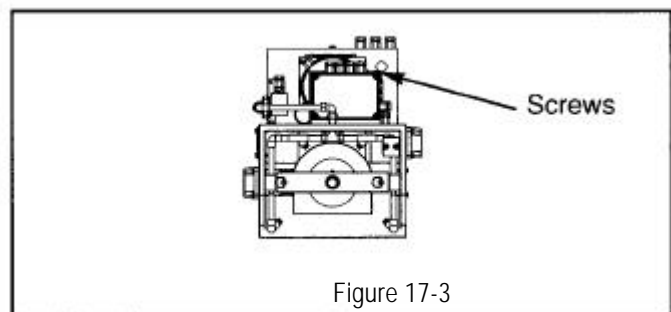

Figure 17-3
4. Remove cover to control box by loosening the screws securing it in place (see figure 17-3).